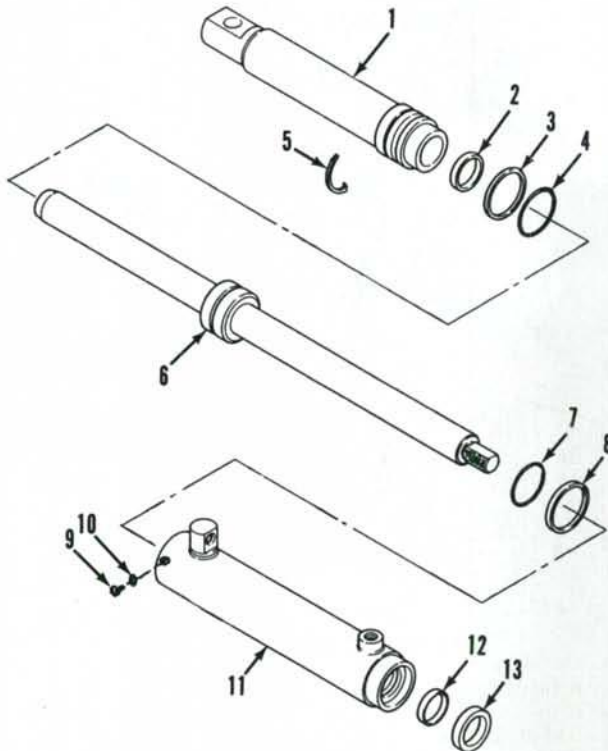

Fig. 39—Exploded view of steering cylinder used on models equipped with nonadjustable (cast) front axle.
To disassemble steering cylinder, clamp the flat end of steering tube (1—Fig. 39) in a soft jawed vise so cylinder is in vertical position. Remove small slot head lock screw (9) and lockwasher from cylinder. Use a filter wrench CAS-04-535 or equivalent, rotate cylinder counterclockwise until the straight end of retaining ring (5) can be seen through slot in cylinder. Pry end of retaining ring out through slot and